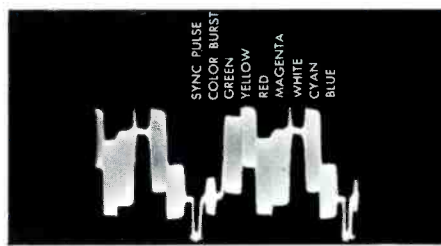
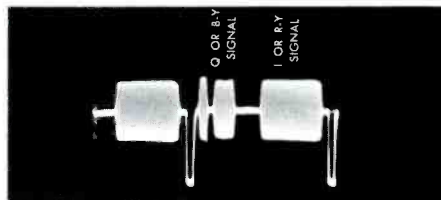

Fig. 5. Composite Video Waveform of Color-Bar Signal.
Fig. 6. Composite Video Waveform of Q and I or B-Y and R-Y Signal.
Three composite signals are provided by the generator. These are: (1) Color bars composed of 100-per-cent saturated primary and complementary colors plus white, (2) Q and I signals, and (3) B - Y and R - Y signals. The color-bar pattern, as produced on a normally operating receiver, is shown in Fig. 3. The Q and I signals and the B - Y and R - Y signals produce patterns like those shown in Figs. 2 and 4, respectively. Proper brightness and chrominance levels in the color-bar signal are generated. The Q, I, B - Y, and R - Y signals are produced at equal chrominance amplitudes and at the black level. A horizontal-sync pulse and a color burst, both at proper amplitudes, are provided in all signals. Fig. 5 shows a composite video waveform of the color-bar signal. Fig. 6 illustrates the make-up of the Q and I composite video signal, and it also illustrates the B - Y and R - Y composite video signal.
Refer to Fig. 2, and note that the Q signal appears at the left whereas the I signal is at the right. Note also that the I bar is much wider than the Q bar. This difference in width can also be seen in Fig. 6. The R - Y and B - Y signals are positioned in the same manner as the I and Q signals. To aid further in identifying the signals properly, the I or R - Y and Q or B - Y signals can be turned off individually by means of the switches on the panel of the generator. When checking for cancellation of one of the signals, turn off that signal and note any change in the pattern. If a change is noted, complete cancellation is not being obtained.